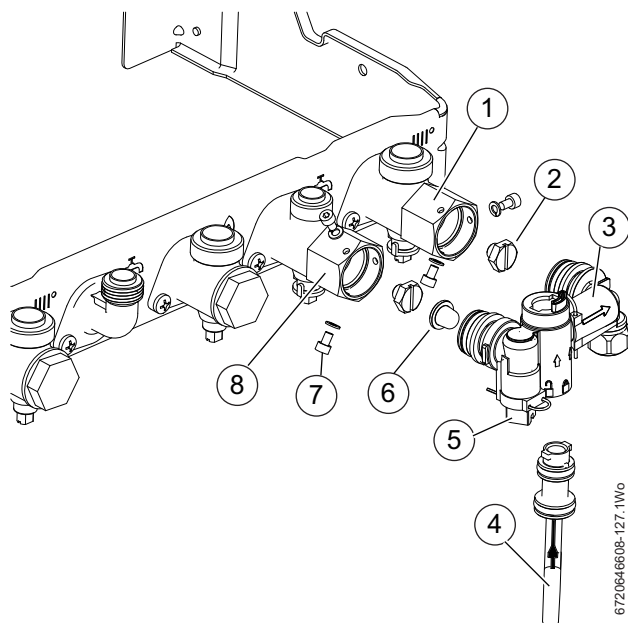

Fig. 31 Fitting the Filling link
- ▶ Fit the Filling link assembly onto the DHW inlet and CH return connections, refer to figure 31